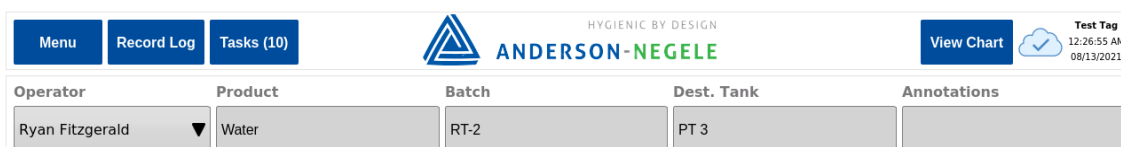

Figure 53: Operator Change
Any user can sign-in and create an annotation on the record with their Name by touching the Operators list seen in Figure 53, then completing the authentication workflow.
1. Touch any of the system info annotation fields on the top of the home screen. Seen in Figure 53 above.